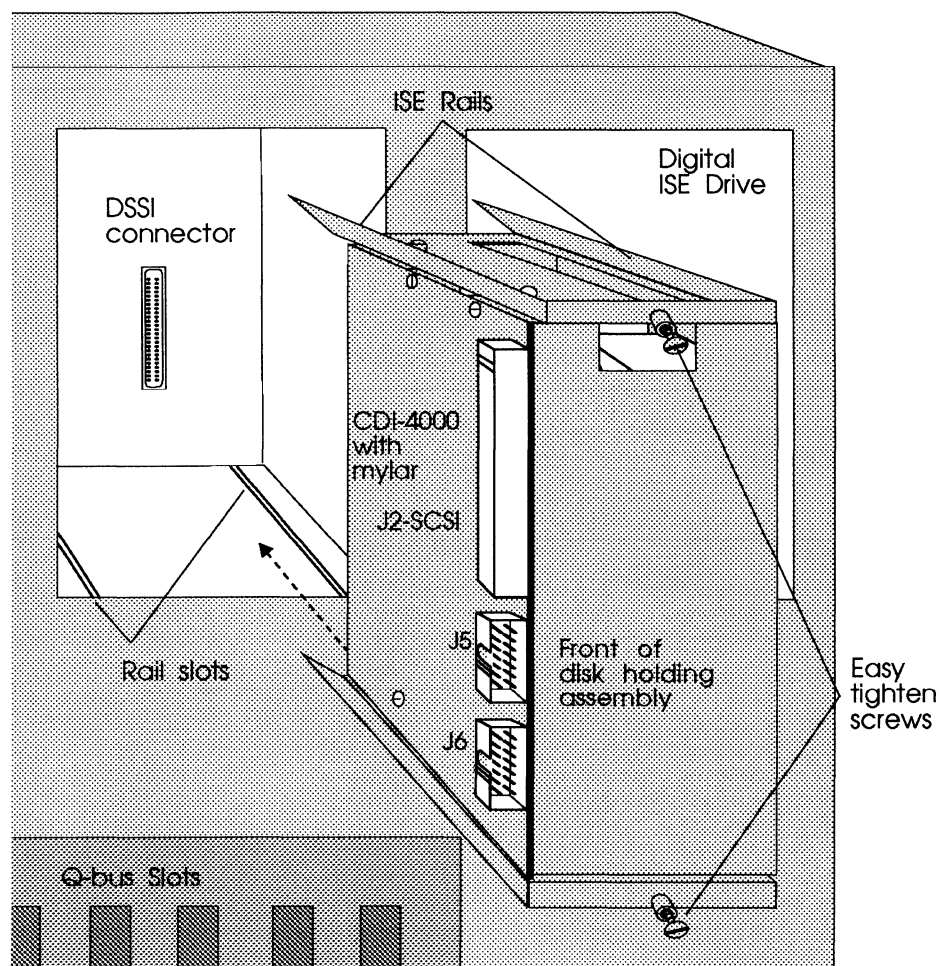

Figure 4-27: CDI-4000-SA2 ISE and drive alignment
- 13 Turn the drive and the ISE assembly so that the CDI-4000 faces the left and the floating connector faces the system. See Figure 4-27.
- 14 Align the ISE rails with the rail slots in the system and slide the ISE with the drive into the system until the floating connector is tightly in the DSSI connector in the backplane of the system. See Figure 4-27.